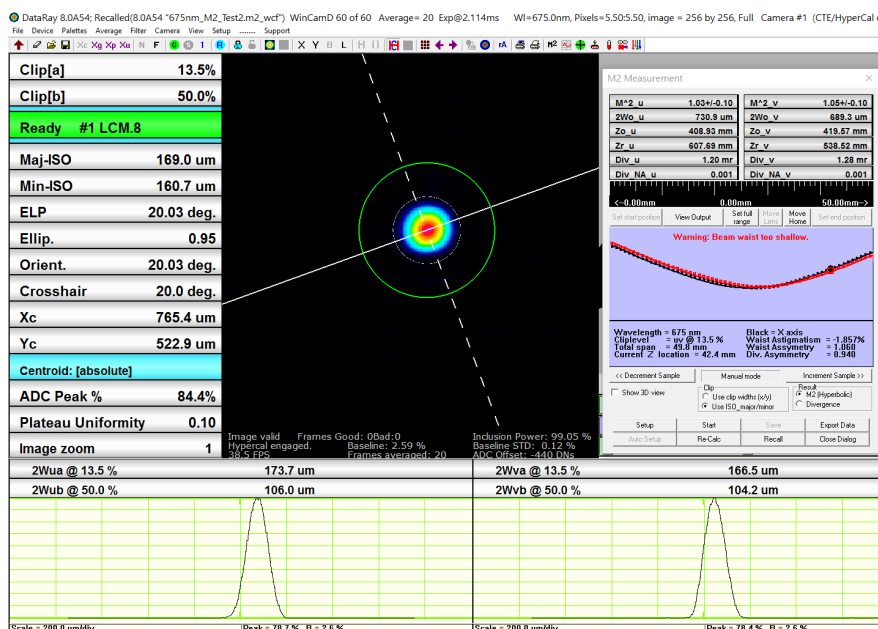

Fig. A.12: Save data using Save in the M2 Measurement dialog.
6. Press  or click on the green highlighted cell as shown in Fig. A.12 to start a capture. Verify that Peak ADC is <90%. If it is not, the beam may require additional attenuation.